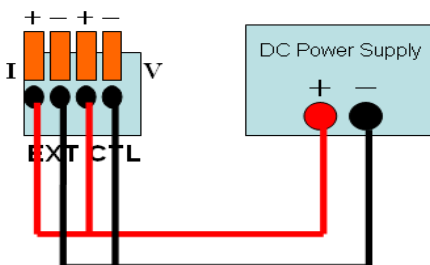

Figure 36- Single Channel Analog Control Calibration Setup
1. From the calibration menu, press **3** to enter **EXT. INPUT CALIB**. If the single channel **DIO/Analog Interface Card** is installed, then Figure 35 will be shown. If the dual channel version is installed, Figure 36 will be displayed.